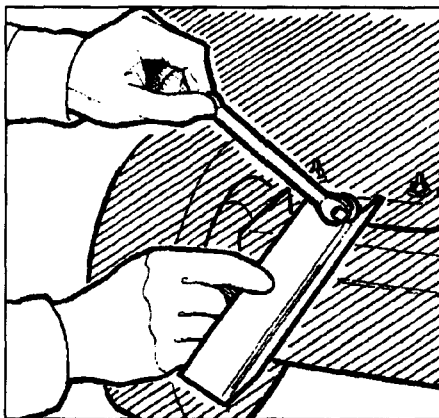

Figure 5-9: Draining the engine oil.
- Change the engine oil after the first 5 hours of operation, then every 25 hours thereafter (change more often if operating in extremely dusty, dirty conditions). See oil changing instructions in the separate Engine Owner's Manual. **TIP:** When changing oil, fold a piece of cardboard or aluminum foil into a "V" and position below the oil drain plug as shown in Figure 5-9.